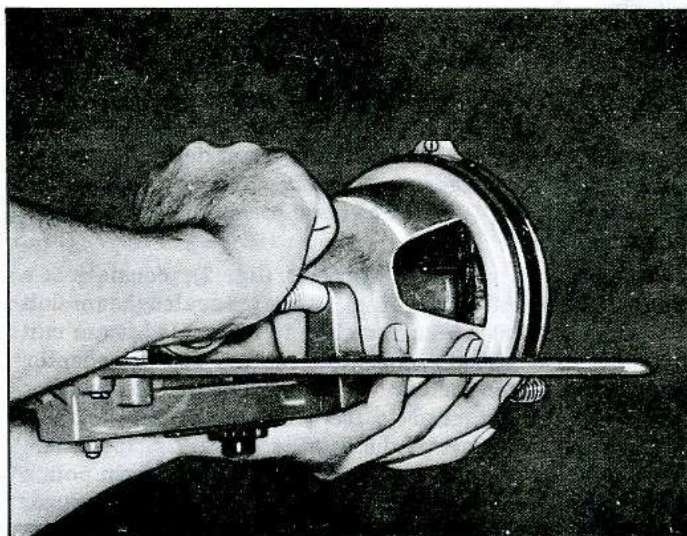

Fig. 3—Installing Aimer on Headlamp Unit
4. Secure the aimers to the headlamp units by firmly pressing knob at center of each aimer (fig. 3). Rotate crossarms inboard to approximate horizontal position.
2. Remove headlamp bezels and install Aimers on each headlamp (fig. 3) making sure aiming lugs engage smooth inner ring of the Aimer. To install Aimer, press firmly on the knob extending out from the center of the Aimer base. This forces the suction cup into place on the Sealed Beam unit.